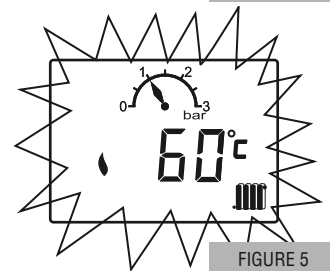

FIGURE 5
When there is a call for central heating the boiler will fire for 1 minute at low and then will increase the modulation to match the demand for heating. The display will show the flame symbol, water temperature and flashing radiator symbol, until the call for central heating stops and the display will return to the standby mode. See Figure 5.
2. CH being supplied. Figure 5.